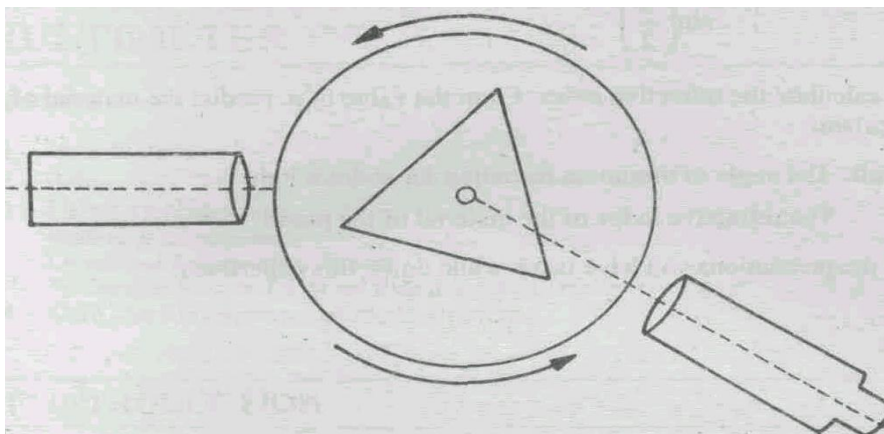

Fig.5.5 Locating the reflected image
3. Fix the main screw and using the tangent screw make the vertical wire of the crosswire to coincide with the image of the slit exactly, as shown in Fig.5.5.